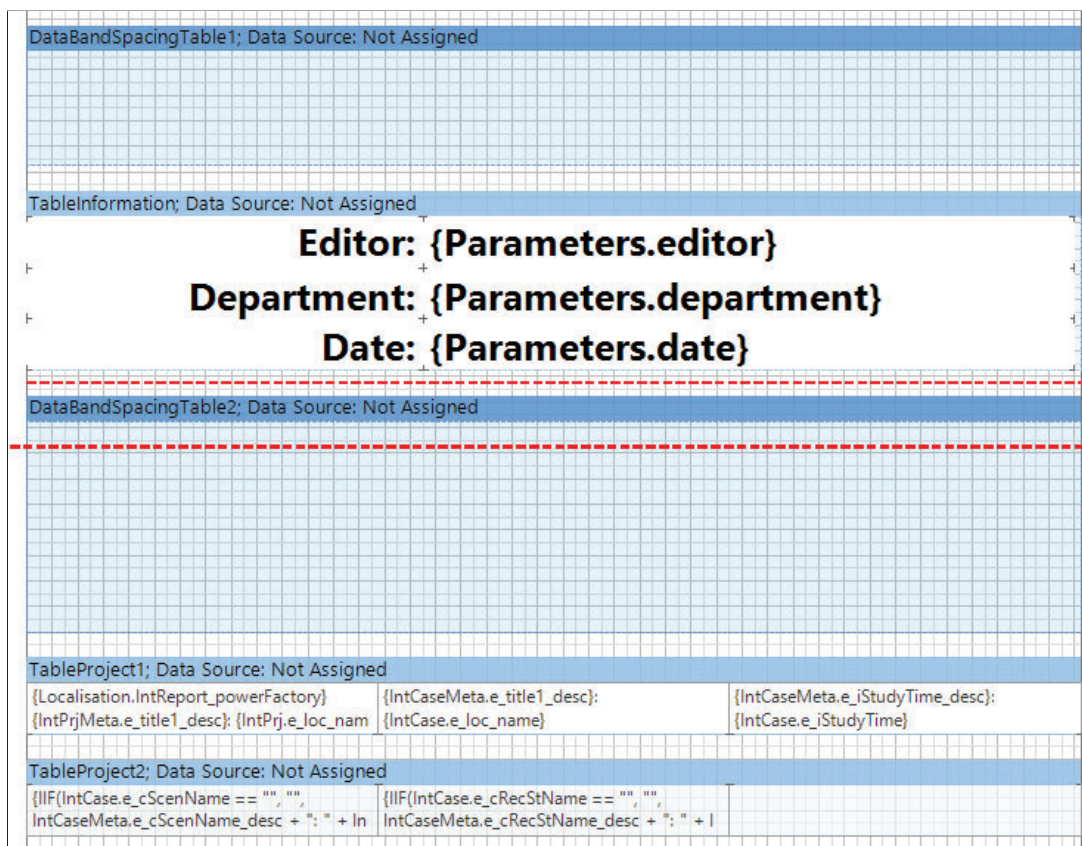

Figure 4.4: Report “Company Title Page” - Part 3
- An example for the report format is shown in Figure 4.4.
**Note:** The red lines in the report as can be seen in Figure 4.4 indicates the end of a page. With flexible input fields (as defined in this report) the red lines might not match with the actual size of the report. Therefore, always check the size of the generated report on the *Preview* page.